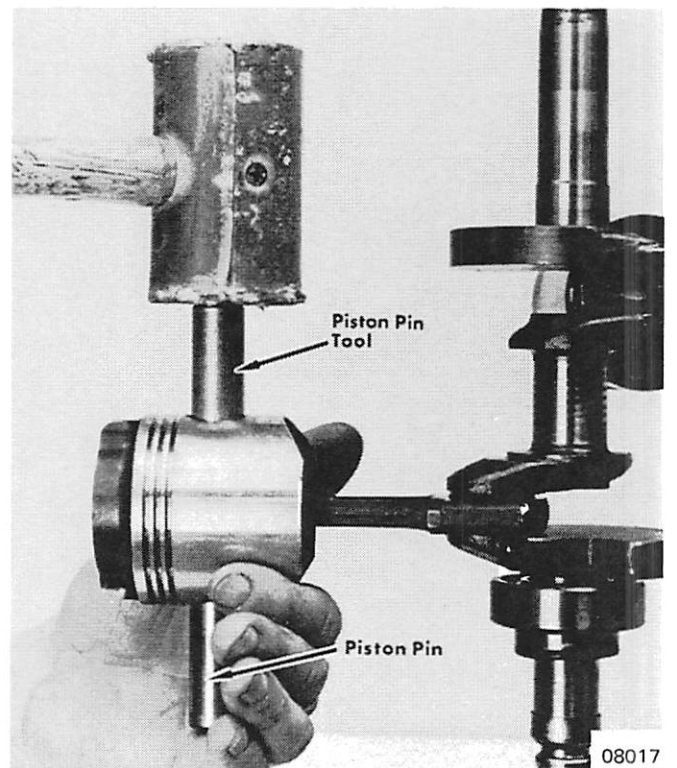

Figure 4 Removing Piston Pin
6. Place piston pin tool (refer to "Tools" Section 9) into top of piston. Hold bottom of piston with hand and drive piston pin out of piston. (Figure 4)